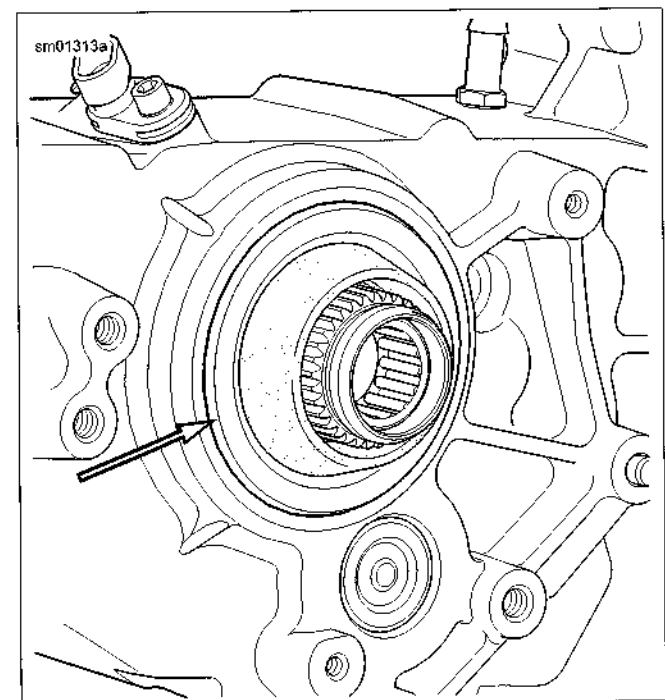

Figure 5-55. Install Main Drive Gear Seal
4. See Figure 5-55. Place seal over pilot and position seal squarely in end of crankcase bore.